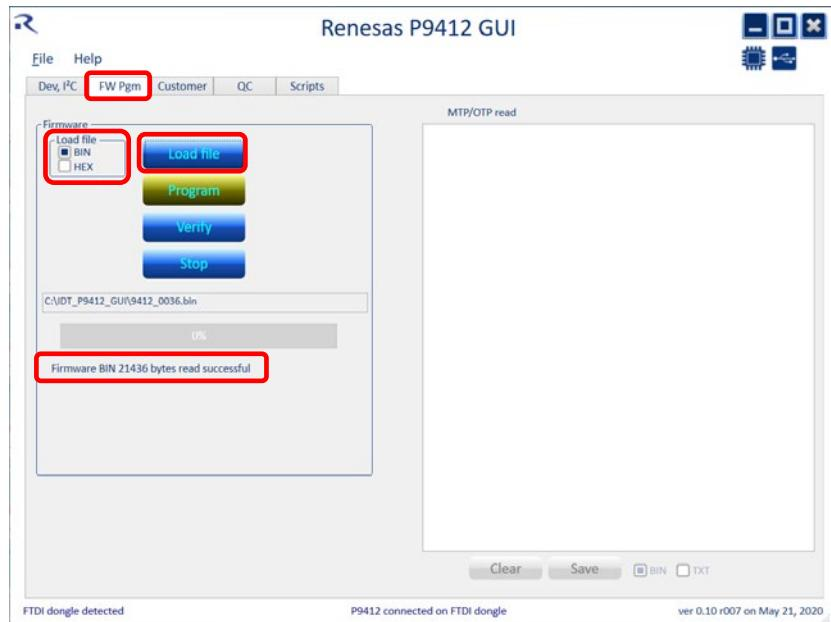

Figure 7. P9412 MTP Programming using I²C Slave Device Address 0x3C
2. To update the MTP program, select the “FW Pgm” tab. Then make sure the proper file type is selected, either HEX or BIN box is checked and Press the “Load File” button, a pop-up window will appear. Navigate to the current P9412 FW *.file and Open the file. See Figure 7, which indicates the FW file was read successfully.